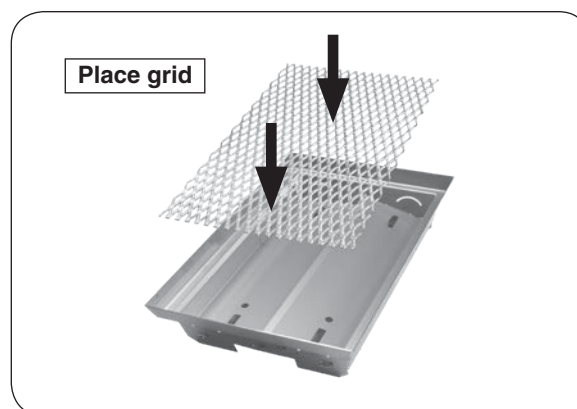

Fig. 34-2 Place grid inside basket
1. Place grid inside the basket frame (see Fig. 34-2).